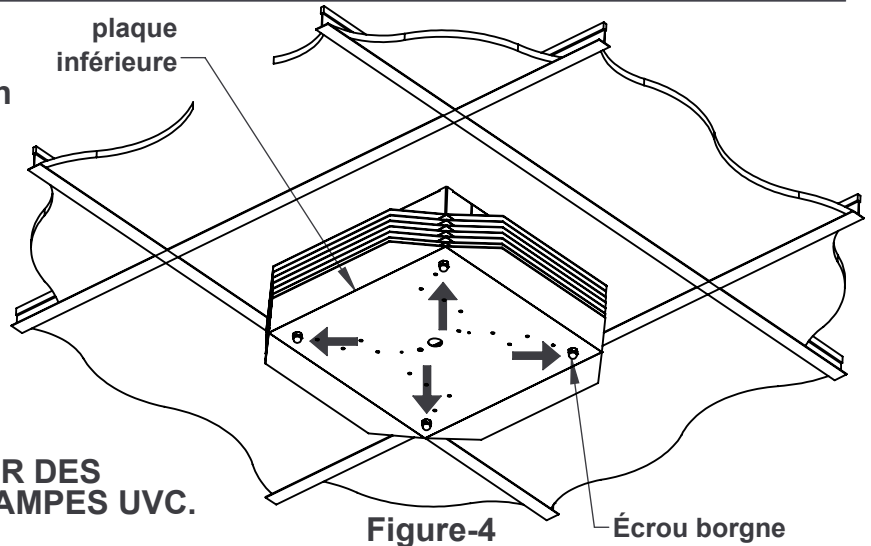

Figure-4
- 1) Remove the four Acorn Nuts from the bottom of the fixture. This will release the bottom plate. (see Figure-4)